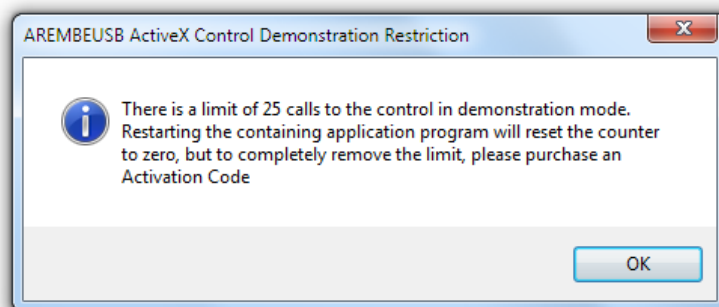

Figure 2-6, Demonstration Mode Warning Dialog
Note that during the following tests, if the AREMBEUSB ActiveX control is operating in the demonstration mode then after 25 communication cycles with the board the warning dialog, figure 2-6, will be shown. To continue testing, simply close and then re-start the Remote Control Server program.
- 10) If the AREMBEUSB ActiveX control is operating in the demonstration mode then the warning dialog, figure 2-6, will be shown again almost immediately. Click OK to close this. In this situation, it will not be possible to verify that the web page actually controls the hardware, but any changes made to the controls on the web page will be shown on the (dimmed) controls of the Remote Control Server dialog. If, however, the AREMBEUSB ActiveX control has been activated by purchase of an activation code then full operation will be possible and can be tested using a similar process to that outlined in section 2.3.01, except that the controls are now operated via the web page.